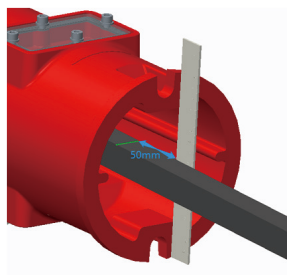

Figure 13
2.11 As shown in Figure 13, mark the inside of the indicator body at 50mm from the top, and cut off the stem at the mark. **Note: if the stem is removed from the body in order to cut it to a proper length, please ensure that the stem is fully engaged with the operating nut of the valve during reinstallation.**